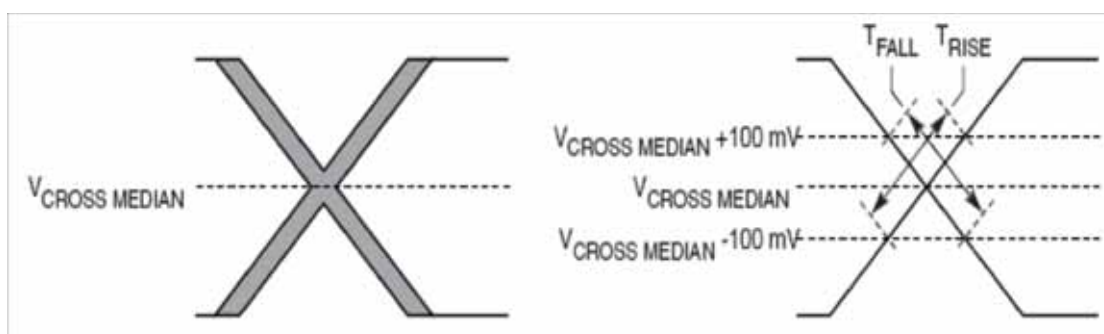

Figure 15. Single-Ended Measurement Points for Rise and Fall Time Matching
6. Matching applies to rising edge for SD_REF_CLKn and falling edge rate for $\overline{\text{SD\_REF\_CLKn}}$ . It is measured using a 200 mV window centered on the median cross point where SD_REF_CLKn rising meets $\overline{\text{SD\_REF\_CLKn}}$ falling. The median cross point is used to calculate the voltage thresholds that the oscilloscope uses for the edge rate calculations. The rising edge rate of SD_REF_CLKn should be compared to the falling edge rate of $\overline{\text{SD\_REF\_CLKn}}$ ; the maximum allowed difference should not exceed 20% of the slowest edge rate. See Figure 15.